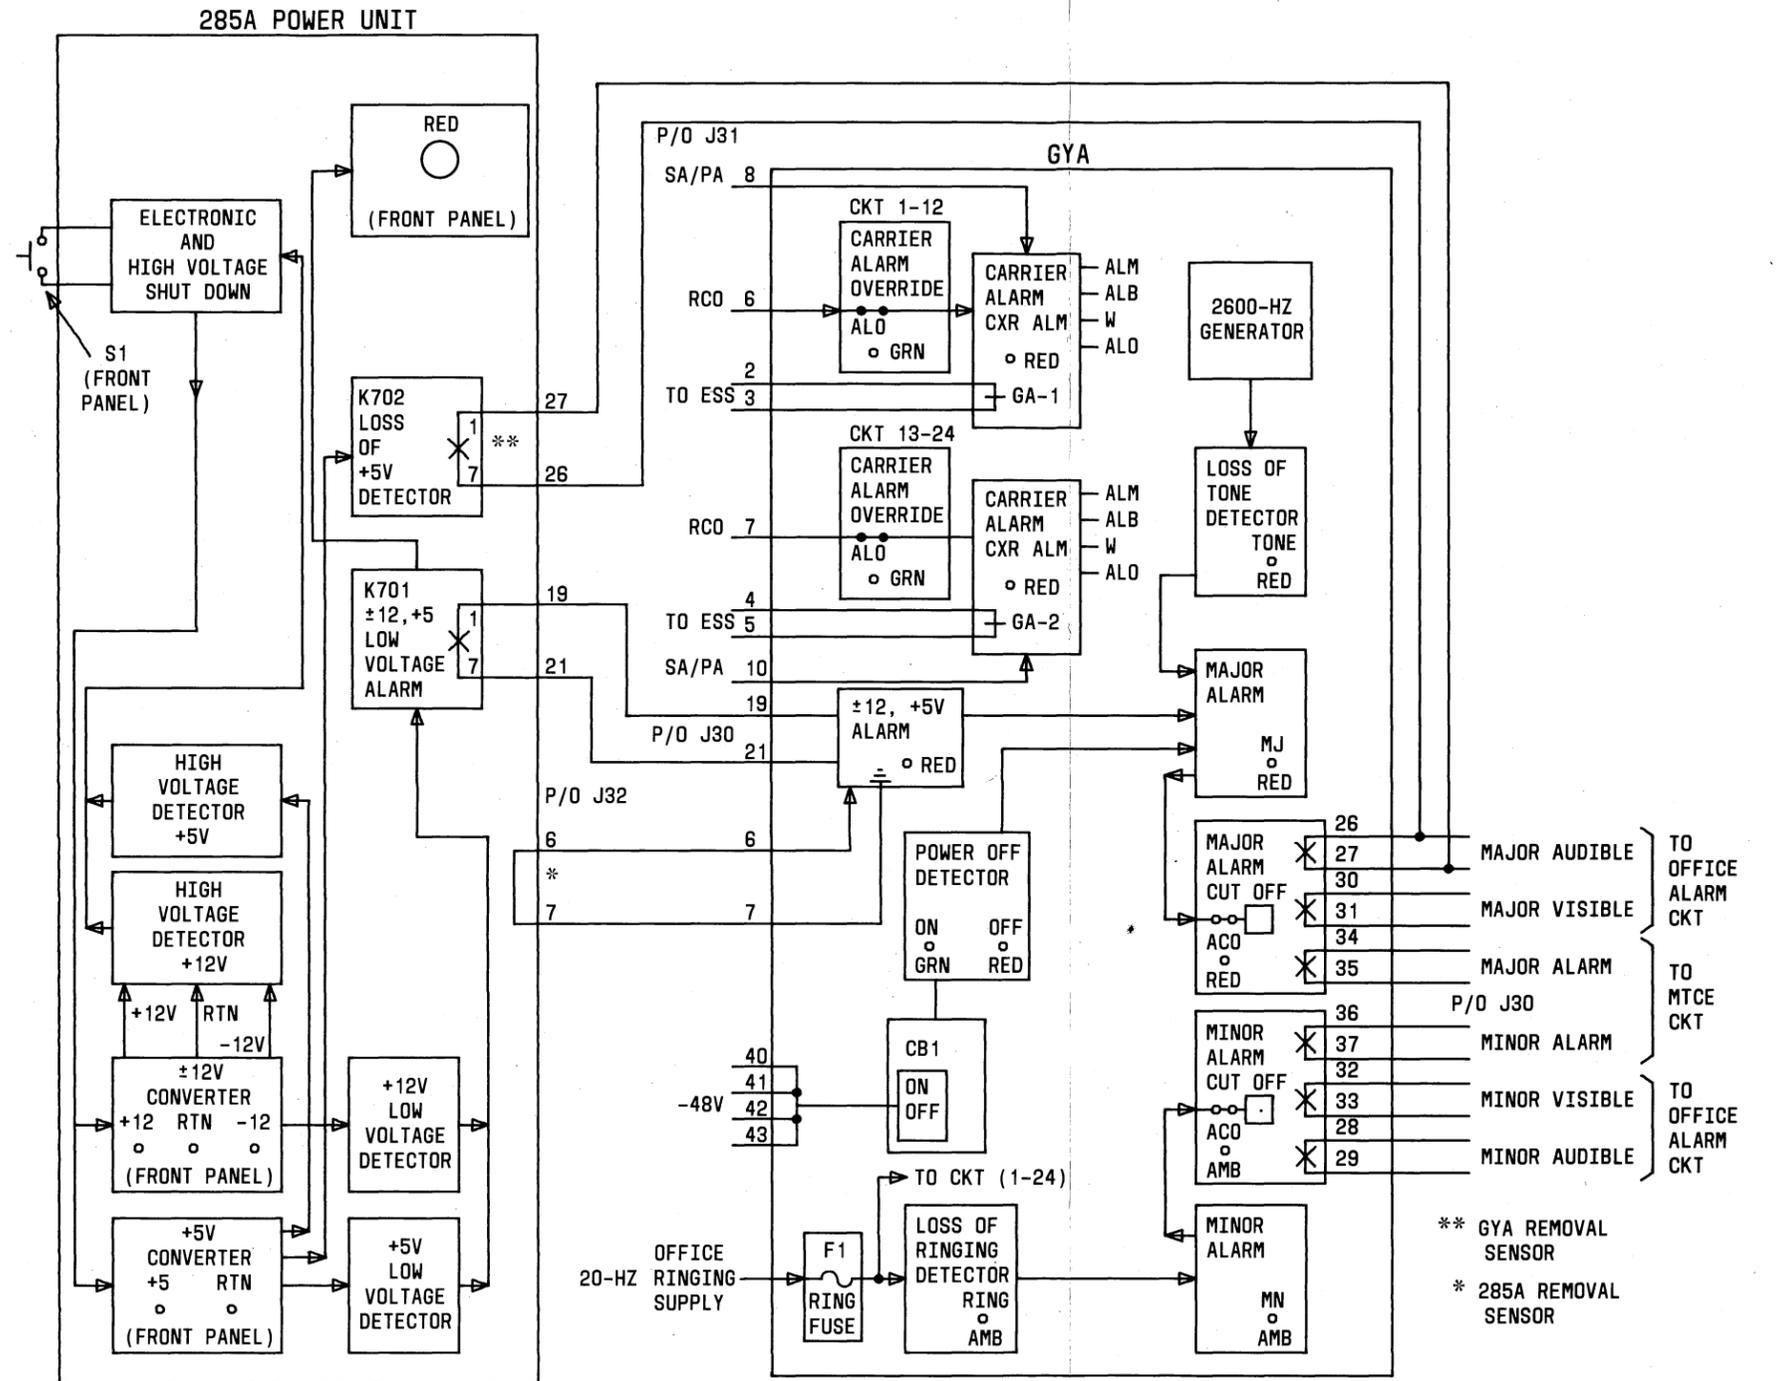

Fig. 6—Illustration of the Alarm Features of the Common Units
2.08 The common equipment consists of two plug-in units which occupy the right side of the G-signaling module. The upper right unit is the power unit and the lower right is the GYA unit (J99395YA). Figure 6 is a block diagram of the power and GYA units illustrating the various alarm features. Section 179-401-100 describes the maintenance required when a trouble condition is indicated at the GYA unit.